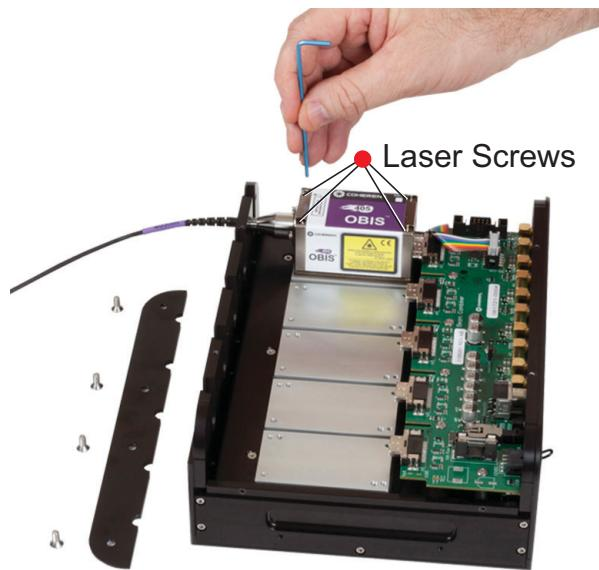

Figure 4-19. OBIS Laser Box: Attach the Laser to the Heatsink
7. Use the screw kit to secure the laser to the heatsink, as shown in Figure 4-19. Use the washers to spread the tightening force.